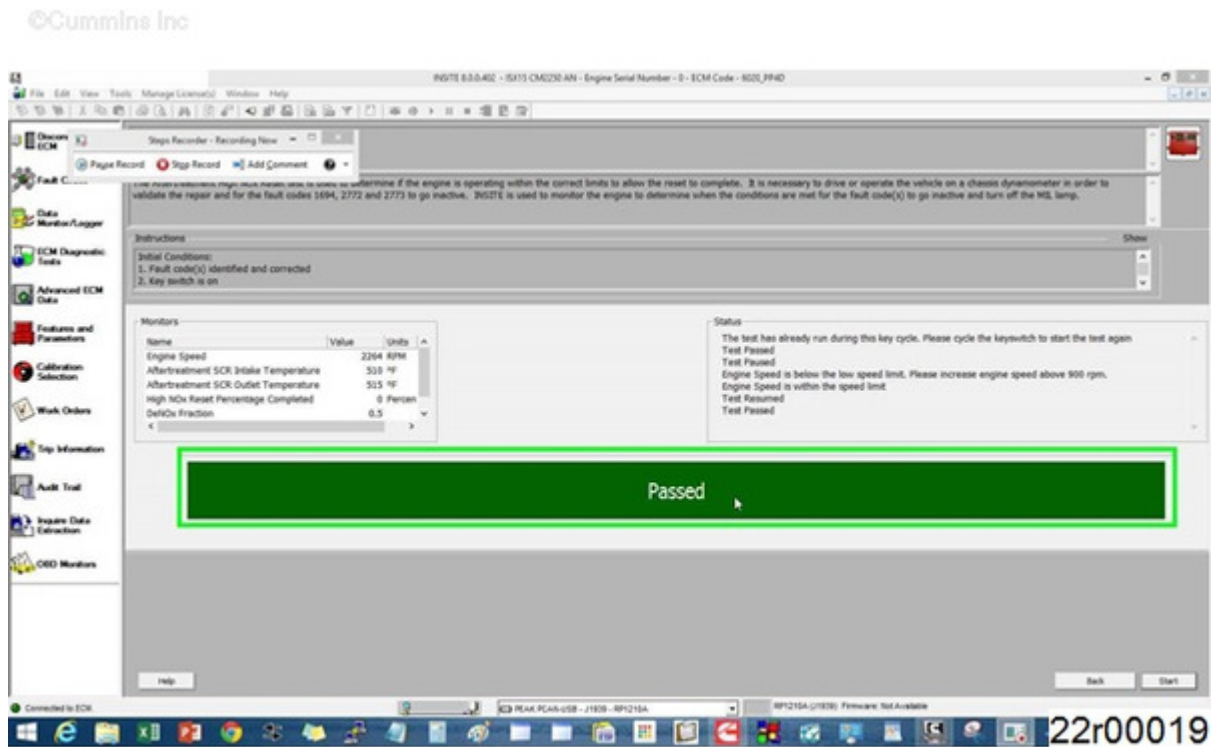
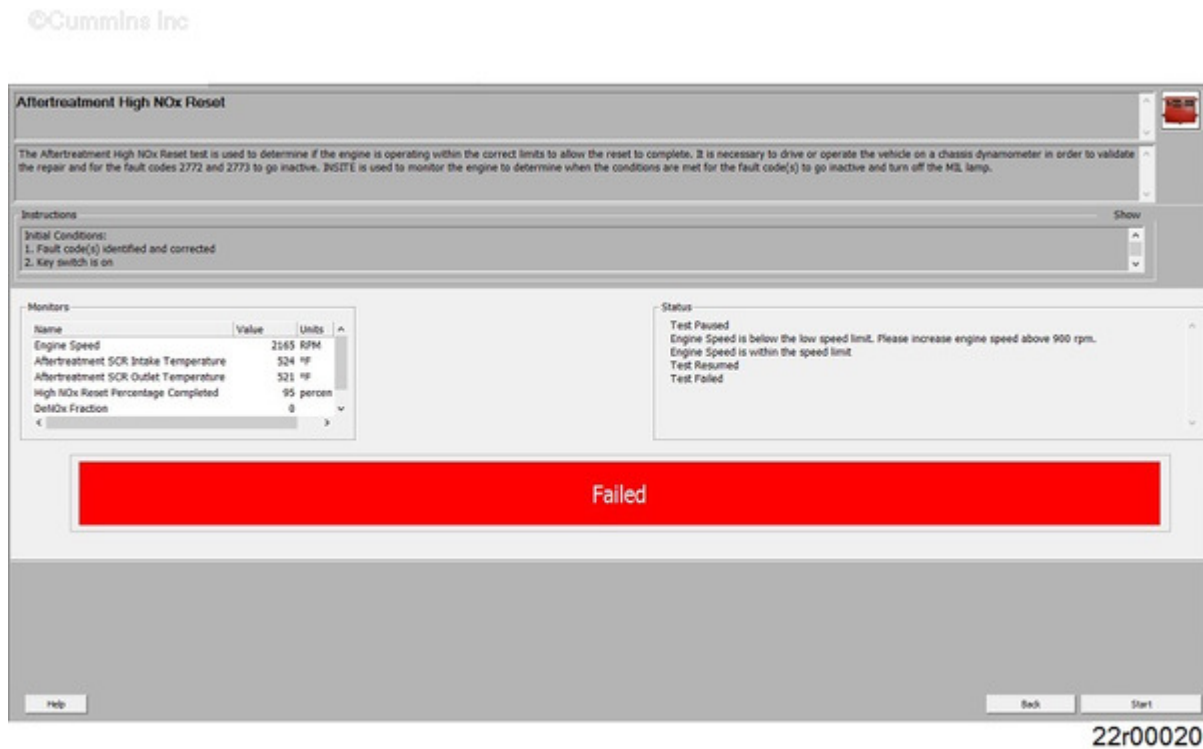

Figure 2, Status Bar Passed
Figure 3, Status Bar Failed
This condition will eventually clear and the status bar will advance. Once the status bar reaches 100%, INSITE™ electronic service tool electronic service tool will return "Passed," see Figure 2, or "Failed," see Figure 3.
1. If the test passes, the OBD NOx monitor has collected adequate data and the repair has been validated. The OBD NOx monitor has been reset, see Figure 2.